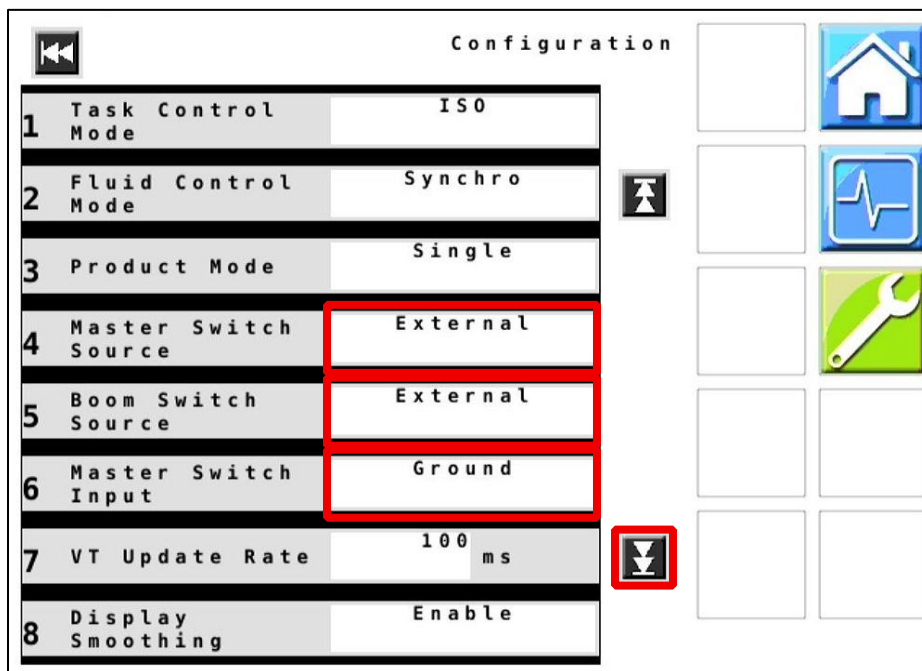

Figure 3 — Configuration Menu – Page 1
4. **Figure 3:** On Page 1 of the Configuration Menu: